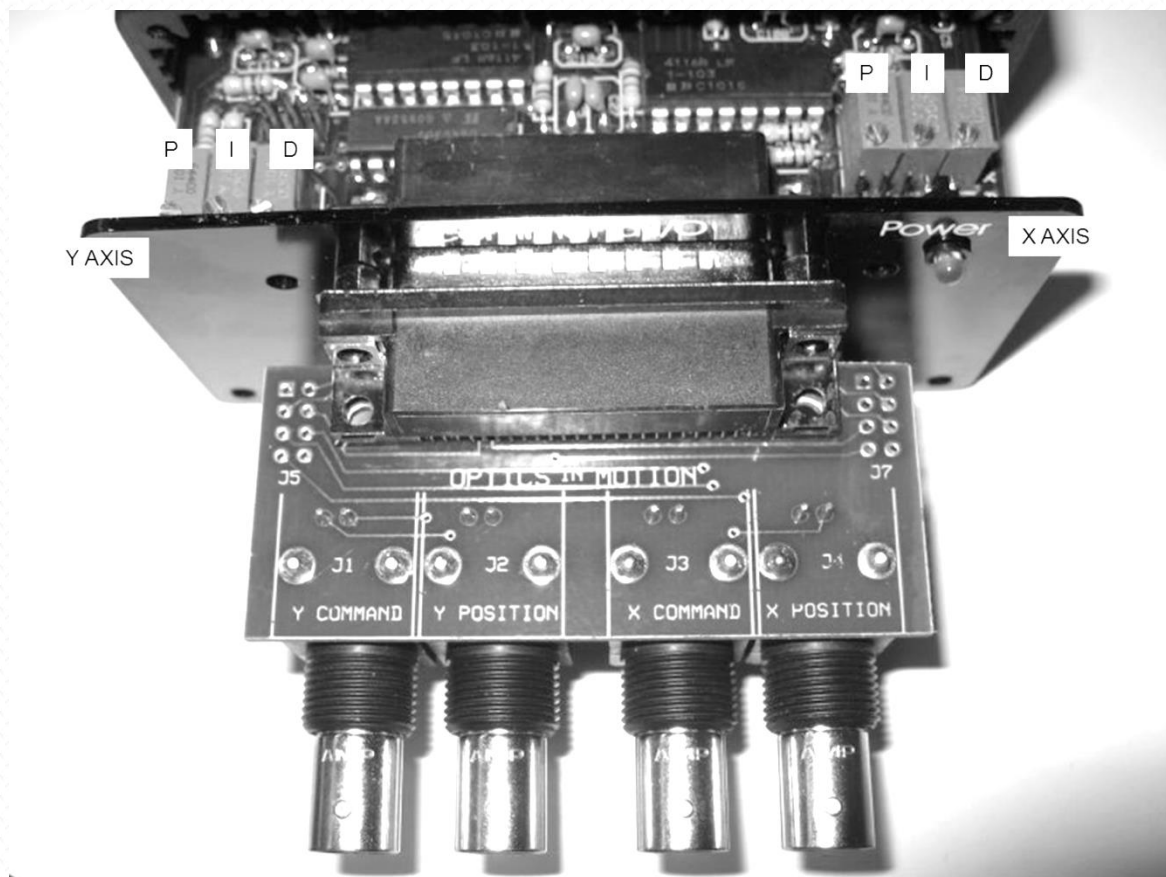

Figure 1: Adjustable PID
The mirror controller electronics are housed in a remote enclosure connected to the FSM via a 6 foot cable. Mirror commands are input to the controller through a 25 socket D sub-miniature connector. The commands are differential signals representing the x and y mirror positions, scaled to the +/- 10 volt range. For example, the X- command can be grounded and the X+ command can go from +10volts to -10volts. The input impedance of the command signals is 10K ohms. Monitor signals are provided for the actual mirror positions, error signals (feedback error between commanded position and actual position). The PID gain of the controller may be set from the controller front panel potentiometers (See fig. 1)
The mirror bandwidth and step response are factory tuned, the data sheets included with the unit show the current settings. The user can optimize the tuning for their specific application by changing these settings. The PID adjustment potentiometers are located inside the controller, to access these pots the front 4 cover screws must be removed. The photo in figure 1 shows the front panel slid forward to allow access to the proportional (P), integral (I),